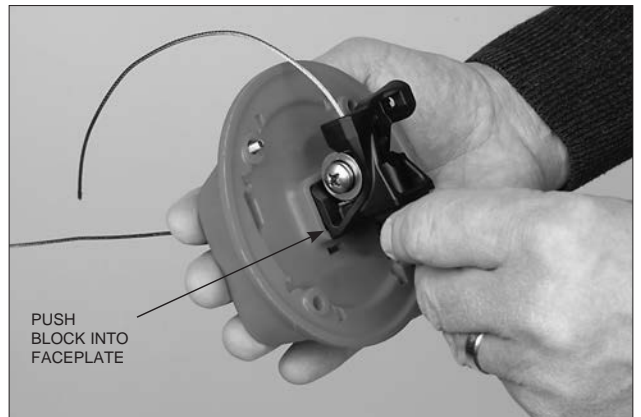

FIGURE 5-78
2. Thread the wire rope through the faceplate. Insert the block by depressing the tabs and pushing the block into the faceplate until it snaps in place. See Figure 5-78.